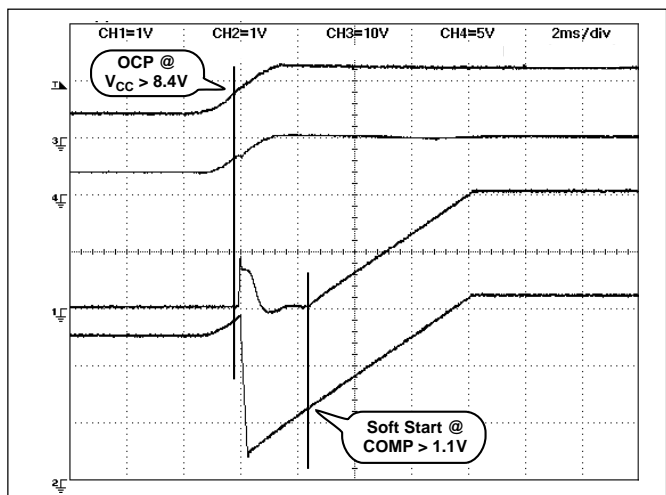

Figure 10: Startup with COMP pre-charged to 2V (2ms/div).
If the voltage across the Current Sense resistor generates a voltage difference between the V_{FB} and V_{OUT} pins that exceeds the OVC Comparator Offset Voltage (86mV typical), the Fault latch is set. This causes the COMP pin to be quickly discharged, turning off GATE(H) and the upper NFET since the voltage on the COMP pin is now less than the 1.1V PWM comparator offset. The Fault latch is reset when the voltage on the COMP pin decreases below the Discharge threshold voltage (0.25V typical). The COMP capacitor will again begin to charge, and when it exceeds the 1.1V PWM comparator offset, the regulator output will Soft Start normally (see Figure 10).